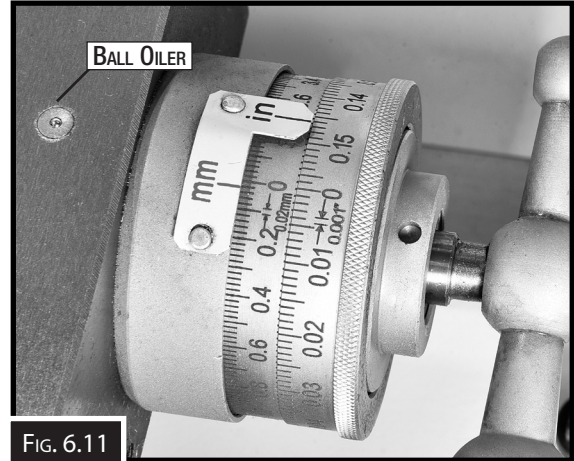

FIG. 6.11
- ☐ Compound-rest leadscrew & slides (Fig 6.11)